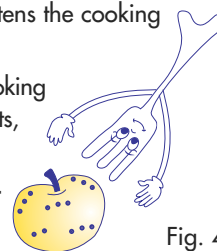

Fig. 4
- 4) **Foods with a skin, shell or peel (e.g., apples, potatoes, tomatoes, frankfurters, fish) must be pierced with a fork or sharp knife in several points so as to allow steam to escape and prevent exploding. (see fig. 4)**